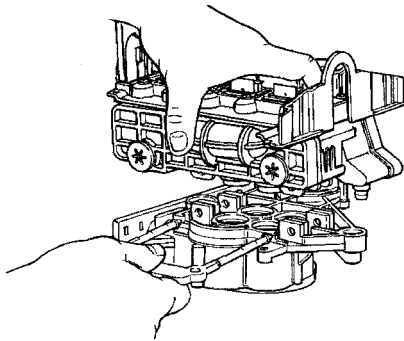

Figure 16
- Apply downward hand pressure on the control and pull the locking bar out, Figure 16.